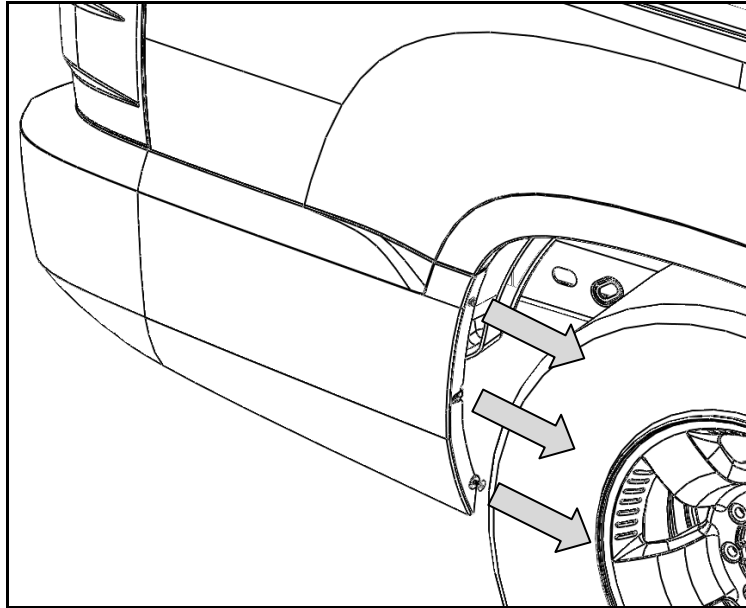

Figure 1 - WHEEL WELL FASTENER LOCATIONS
1. Using a small flat head screwdriver, remove the plastic rivet in the lower corner of each rear wheel well by inserting the screwdriver into the recess and prying the head outward. See Figure 1.
2. Using a 7mm socket and ratchet, Remove the two (2) screw fasteners from each wheel attaching the rear bumper cover to the inner fender liner